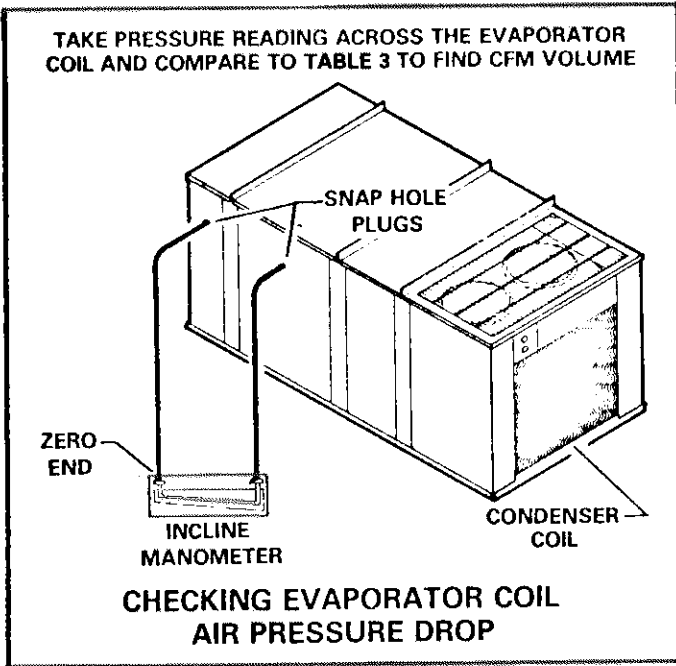

FIGURE 9
1 - Air test holes are provided (one each side of coil) for checking pressure drop across evaporator coil. This check should be made with an inclined monometer or draft gauge. See Figure 9.
a bead of grease appears at the seal lip contacts. Refer to Figure 9.
- 2 - *Evaporator Blower Motor Bearings* - Bearings are prelubricated. For extended bearing life, relubricate at least once every two years with a lithium base grease, such as Westinghouse 53701RW, Chevron BRB2 (Standard Oil) or Andok 260 (Exxon Oil). To relubricate, replace top plugs with standard grease fittings. Remove lower outlet plugs and add grease with a hand gun until new grease appears at bottom outlets. Run motor for a short time before replacing bottom plugs. Refer to Figure 9.